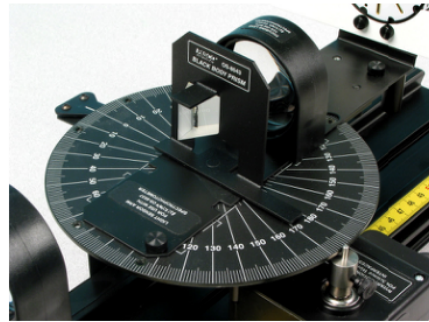

Figure 4: Prism Orientation
1. Attach the Mounted Prism to the spectroscopy table by screwing it into the hole in the center of the table. Screw it down until it almost touches the table. It is critical that the Mounted Prism does not touch the table so the table is free to move without moving the prism. Orient the prism with its apex toward the light source as shown in Figure 4. The prism base must be perpendicular to the incoming light beam. To do this set, turn the table until the index mark is on 0° and then set the base of the Mounted Prism so it lies along the 0°-180° line on the table. Secure the prism in place using the wing nut and lock washer on the bottom of the bolt sticking through the spectroscopy table.